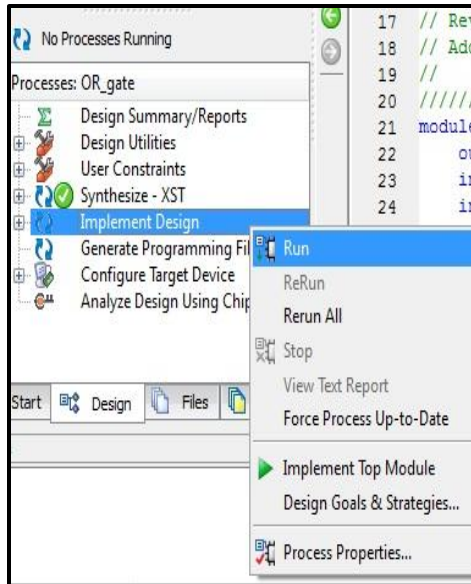
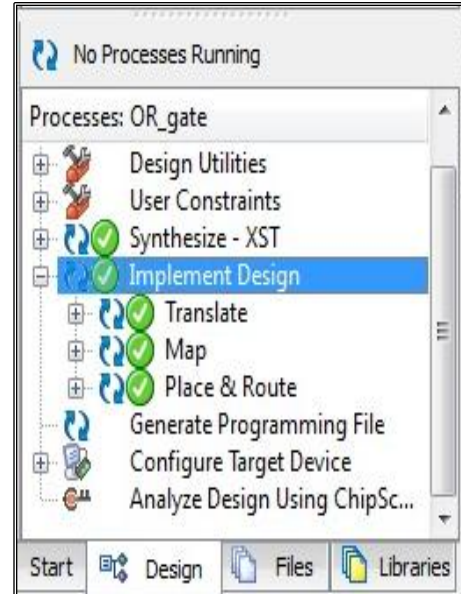

Fig 1.32: Implement Design
Fig 1.33: Implementation successful
31. After writing the UCF, we will proceed with the **Implement Design** step. Design implementation is the process of translating, mapping, placing, routing, and generating a bit file for the design. For this right click on **Implement Design** and select **Run** as shown in Fig 1.32. If the design is implemented successfully then green check will appear near the Translate, Map and Place & Route process as shown in Fig1.33.